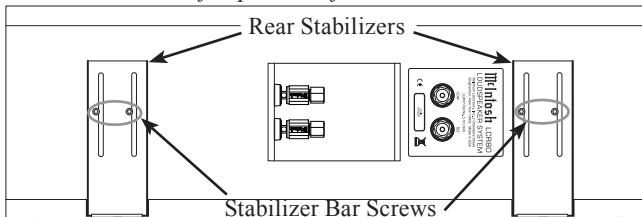

Figure 6A
- Using an appropriate tool, remove the screws securing the Rear Stabilizers to the back of the LCR80. Refer to figure 6A.